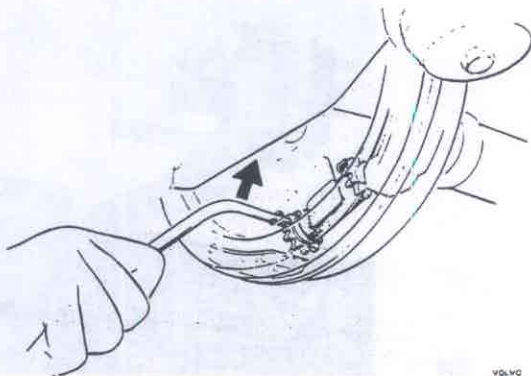

Fig. 43-212. Adjusting brake shoes
7. Adjust out one of the brake shoes with a screwdriver, Fig. 43-212, until it is just possible to rotate the drum. The drum should be fixed with nuts. Slacken the adjuster screw until the drum rotates freely, but max. 5 teeth. Adjust the other brake shoe in the same way.